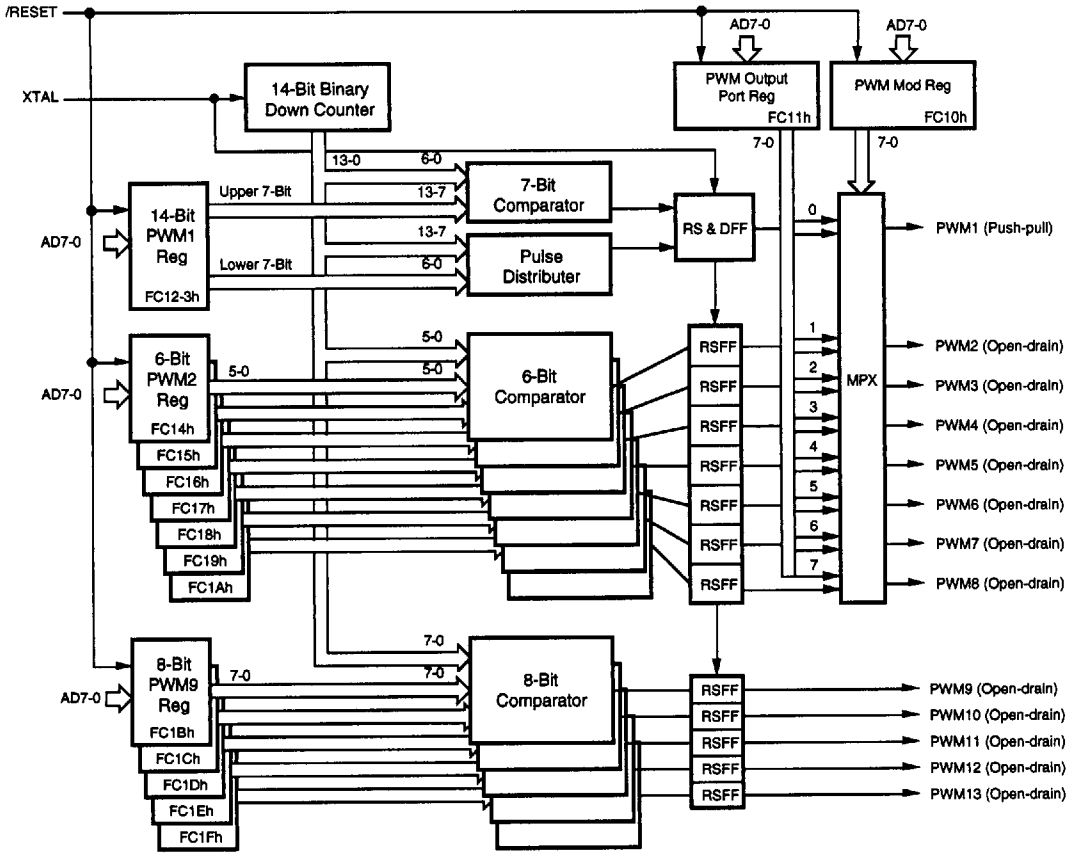

Figure 9. Pulse Width Modulator Block Diagram
**Pulse Width Modulator (PWM).** The DTC has 13 PWM channels (Figure 9). There are three types of PWM circuits: PWM1 (1 channel of 14-bit resolution) typically used for Voltage Synthesis Tuning, PWM8-PWM2 (7 channels of 6-bit resolution) typically used for audio level control, and PWM13-PWM9 (5 channels of 8-bit resolution) typically used for picture level control. PWM8-PWM1 may be used as general-purpose by programming the PWM mode register. The PWM control registers are mapped into external memory and are accessed through LDE and LDEI instructions.